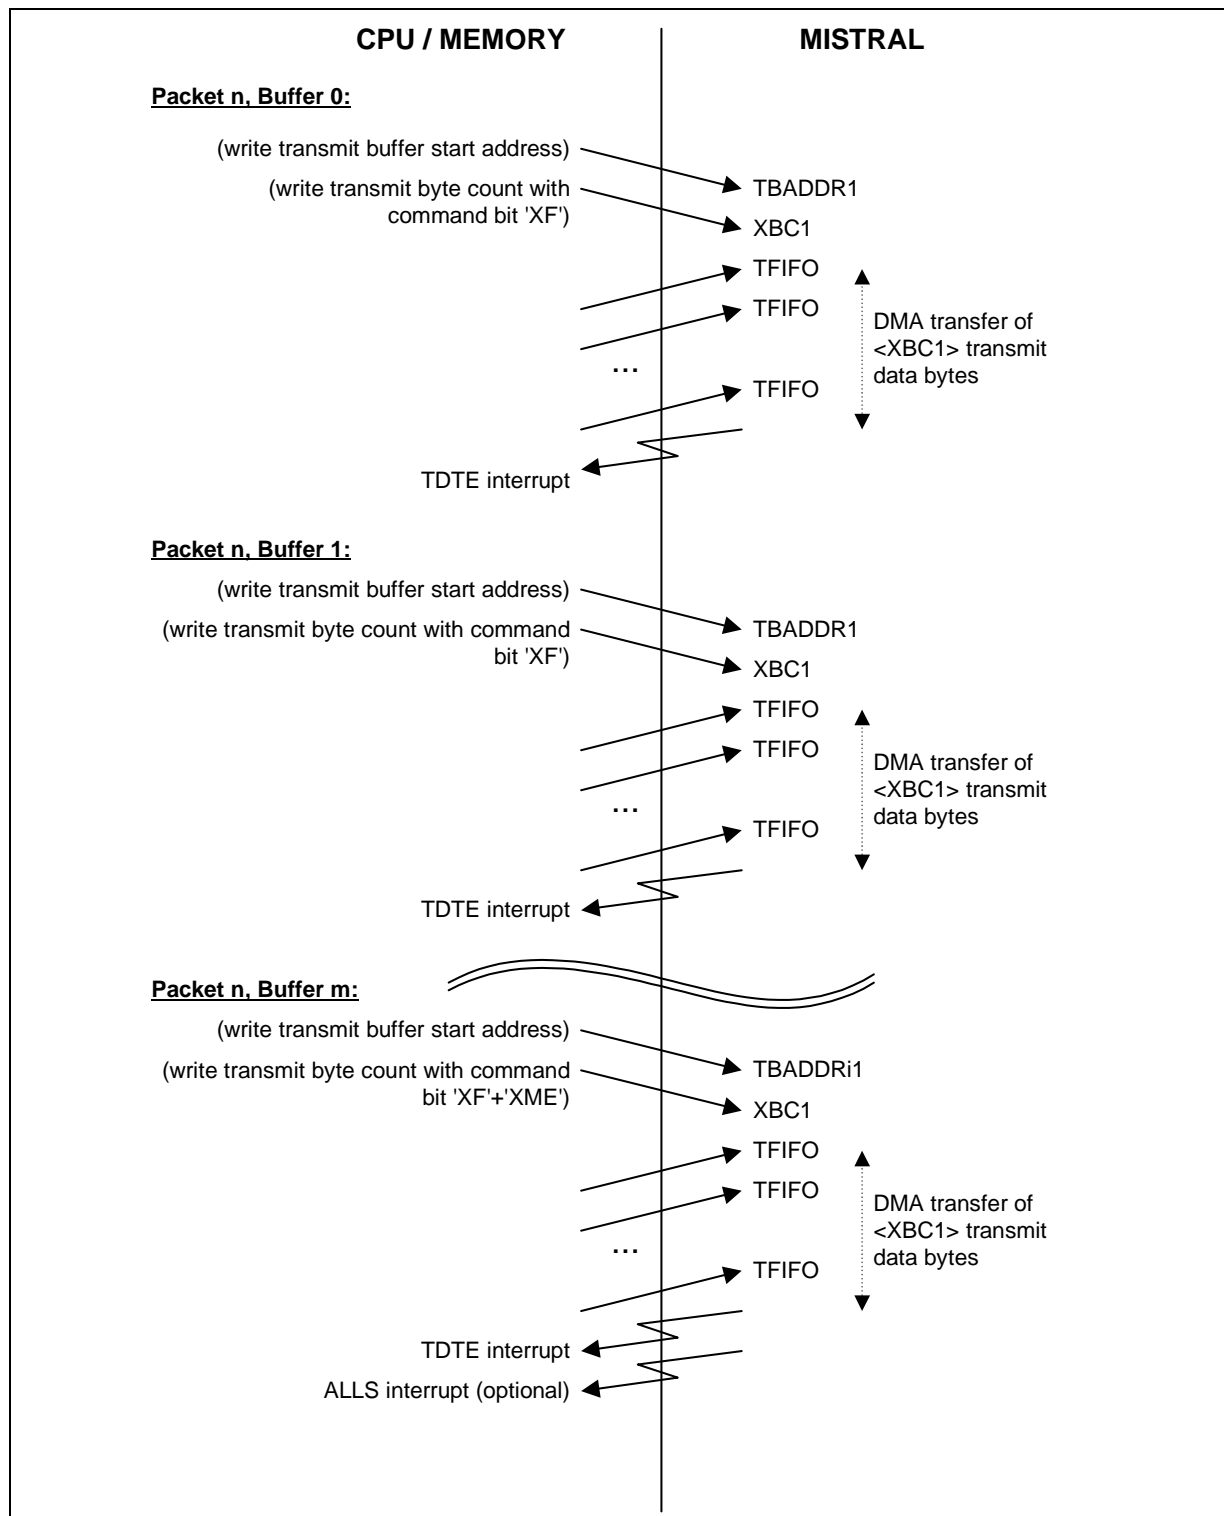

Figure 62 Fragmented DMA Transmission (Multiple Buffers per Packet)
- If a transmit packet is distributed over more than one transmit buffer in memory, the 'XF' command (without setting the 'XME' bit) starts transmission of a buffer. A Transmit DMA Transfer End (TDTE) interrupt is generated whenever a block of <XBC1> bytes is completely transferred. For the last buffer, containing the end of the transmit packet, the 'XF' command is issued together with bit 'XME' set (refer to Figure 62).